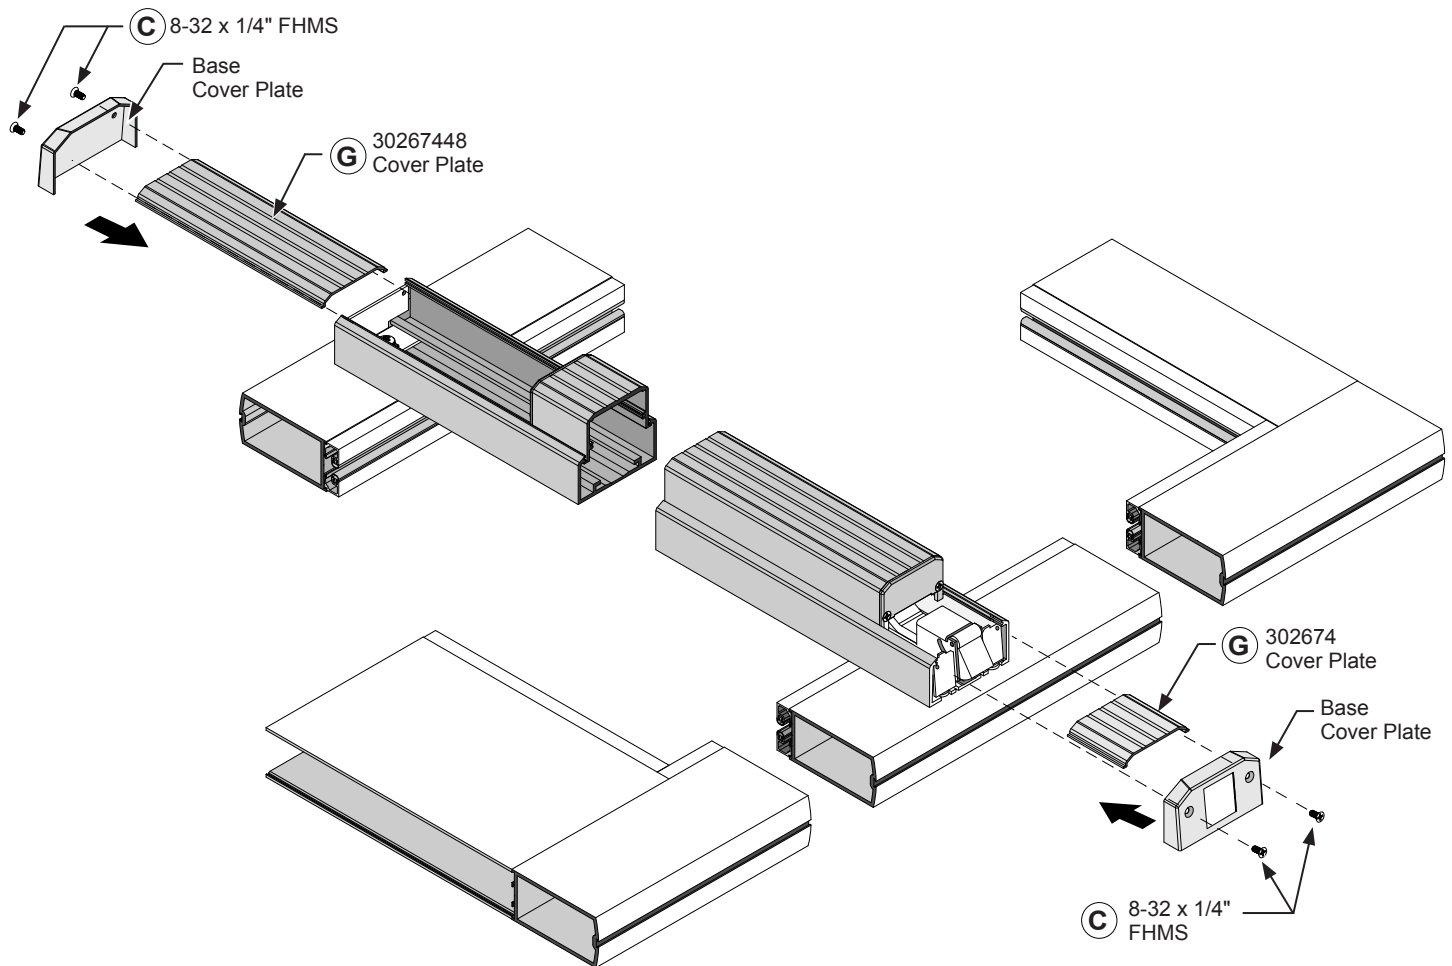

FIG. 12
1. Slide the (2) base cover plates **G** 302674 and 30267448 in place.
2. Attach both end caps to the previously attached end cap brackets with **C** (4) 8-32 x 1/4" FHMS Refer to (Fig.12).